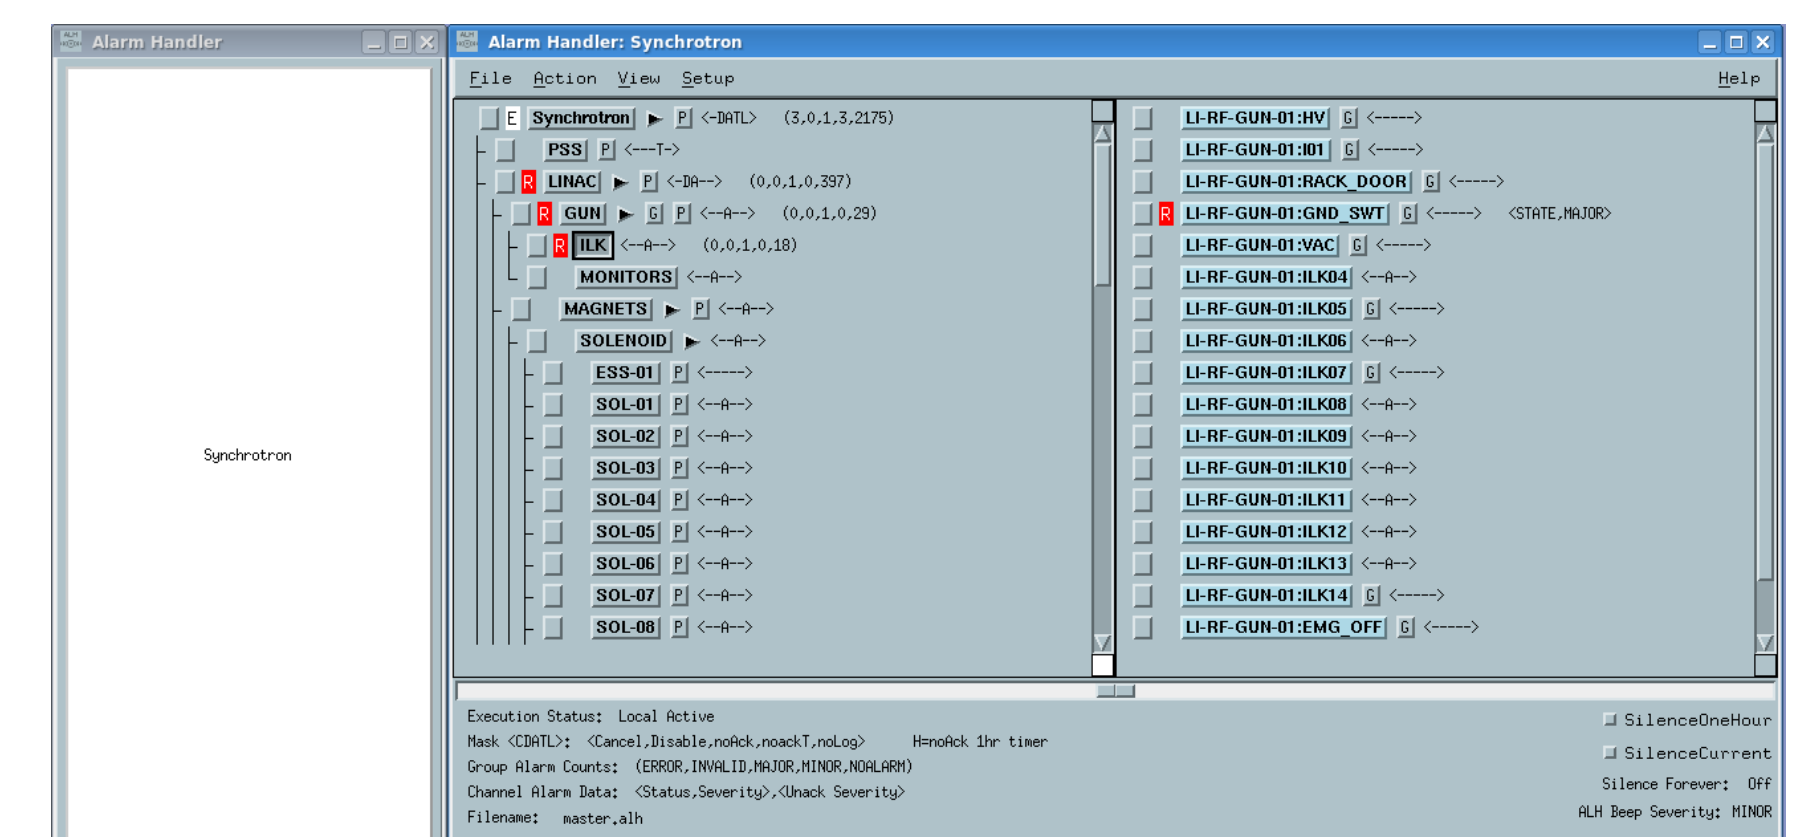

Figure 4: The facility alarm handler showing the electron gun interlock group, with an acknowledged but active ground switch interlock.
The EPICS Alarm Handler (ALH) is a critical systems monitoring software which provides a central point for the audio and visual display of all current alarms (figure 4) , based on the EPICS process variable (PV) database file information.